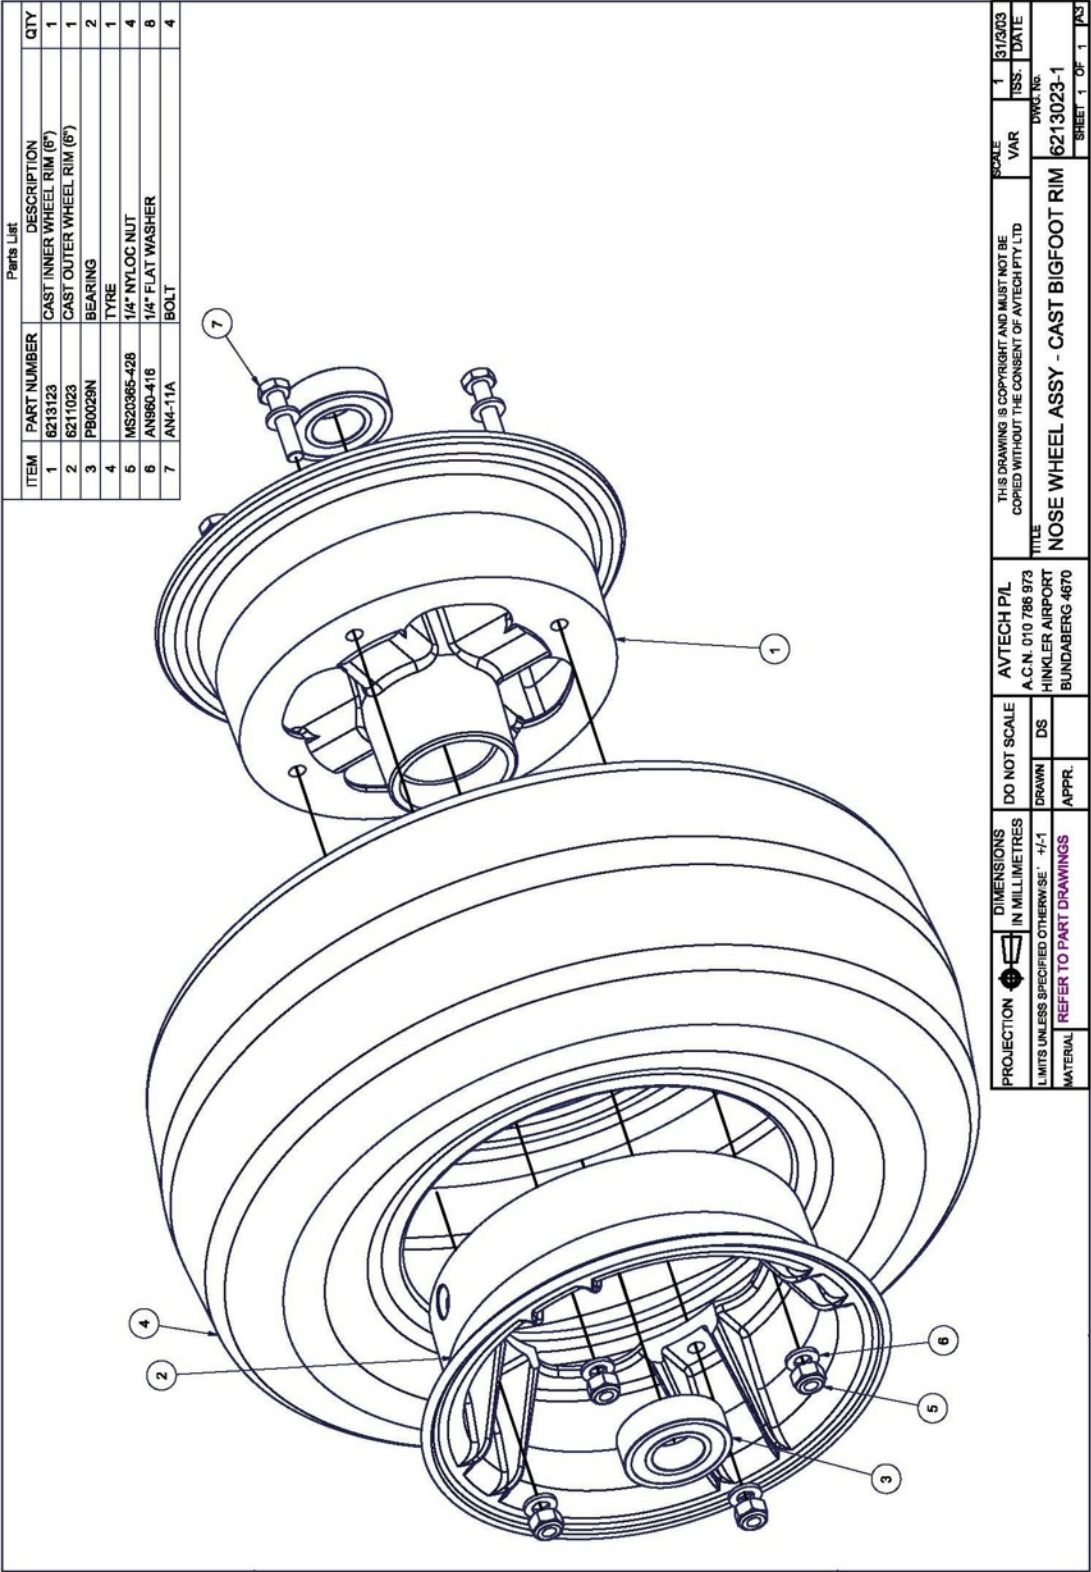

Figure 5-8: Nose Wheel Assembly
The nose wheel is a Jabiru cast aluminum wheel with sealed bearings. The wheel is in two halves which are joined by through-bolts to the wheel hub as shown in Figure 5-8: Nose Wheel Assembly.
1. Completely deflate tire and break tire beads loose at wheel rim. Refer to Figure 5-8: Nose Wheel Assembly.